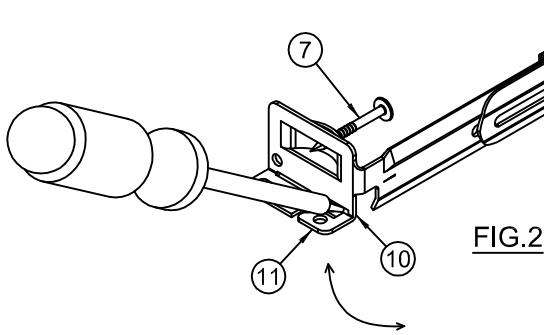

FIG. 2
**WARNING:** To complete the installation, choose only UL listed Progress trims from the label inside the housing. The use of any trim not listed in this fixture is a violation of N.E.C. article 110-3(B) and voids all warranties.
1. For Wooden Joists: Extend the Bar Hangers (6), use joist alignment tabs (4) to locate fixture and position underneath support joist (8). Drive the 4 Nails (7) into Joists (8) (Fig. 2). Drive additional nails through holes in Bar Hanger for alternate support if required.